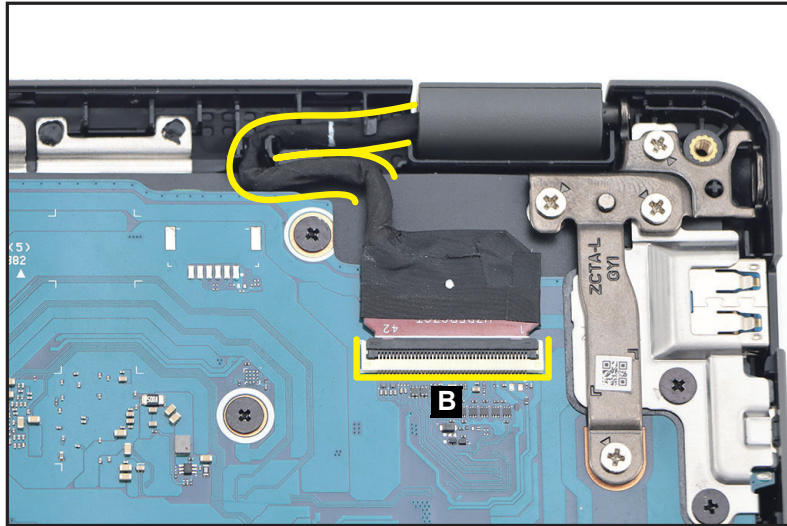

Figure 1-23. LCD Module Removal
2. Disconnect the LCD cable from the mainboard connector (B). Then unroute the cable from the cable guides as shown in Figure 1-23.